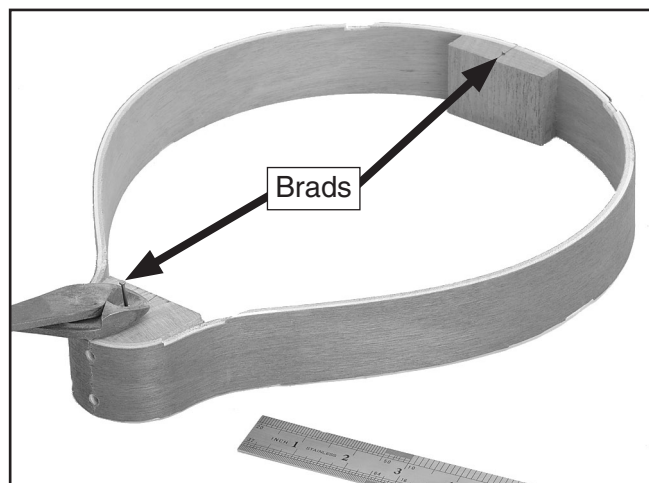

Figure 10. Brads nailed into the headblock and tailblock.
- Nail the brads into the positioning holes and use wire cutters to cut the heads off no more than $\frac{1}{16}$ " above the surface of the neck as shown in **Figure 10**.